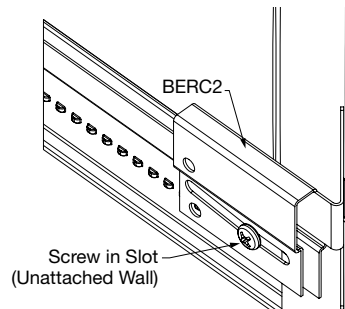

Fig 79
- Cross tees can be cut to length and secured to the wall molding with a field-modified BERC2 to match the angle of the cross tee (**Fig 79**)